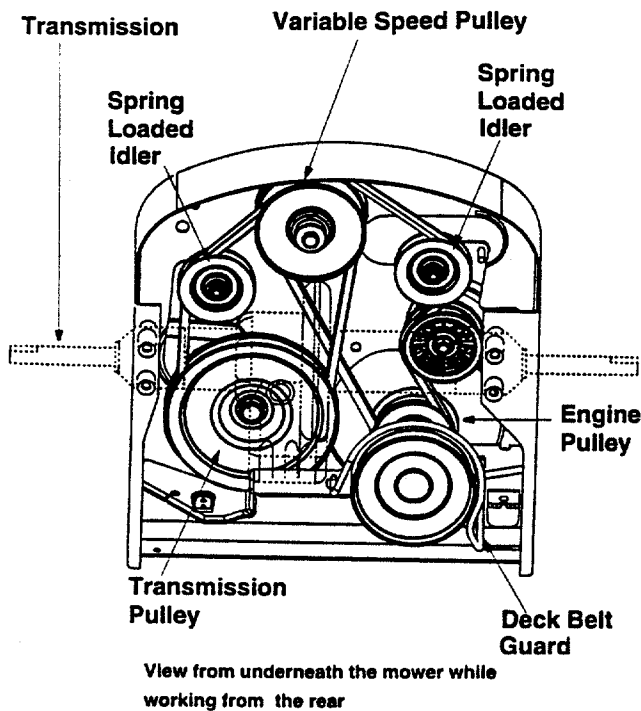

Figure 24
- Using a 9/16" socket, remove bolt, spacer and the flat washer from the variable speed pulley. See Figure 24. Drop the pulley down and remove the belt.
- Push the idler bracket to the right and remove the belt. See Figure 24.